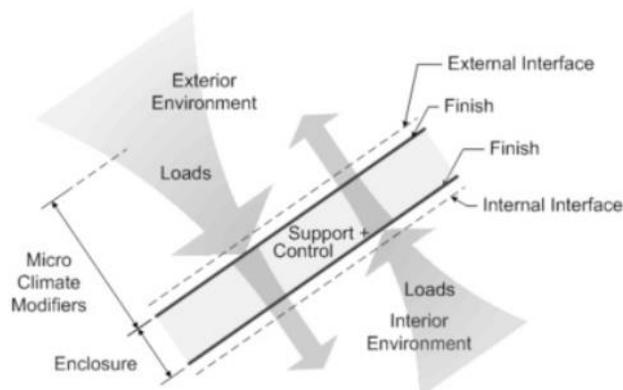

Fig. 1 Building enclosure and its functions (1)
(2) [http://buildingscience.com/documents/digests/bsd-018-the-building-enclosure\\_revised](http://buildingscience.com/documents/digests/bsd-018-the-building-enclosure_revised). Please check fig. 1, 2 and 3